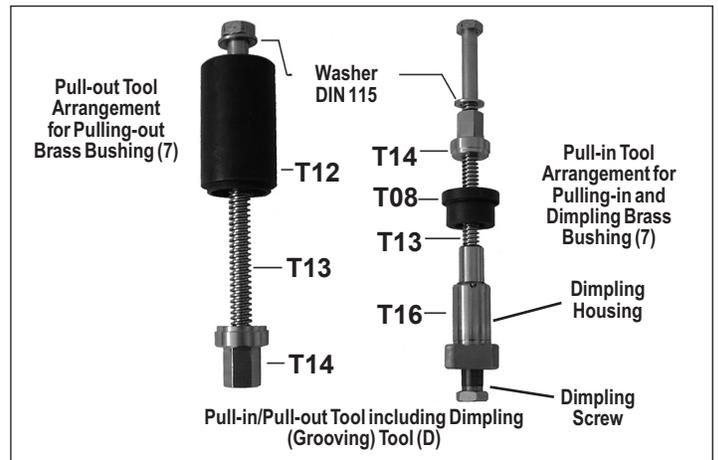
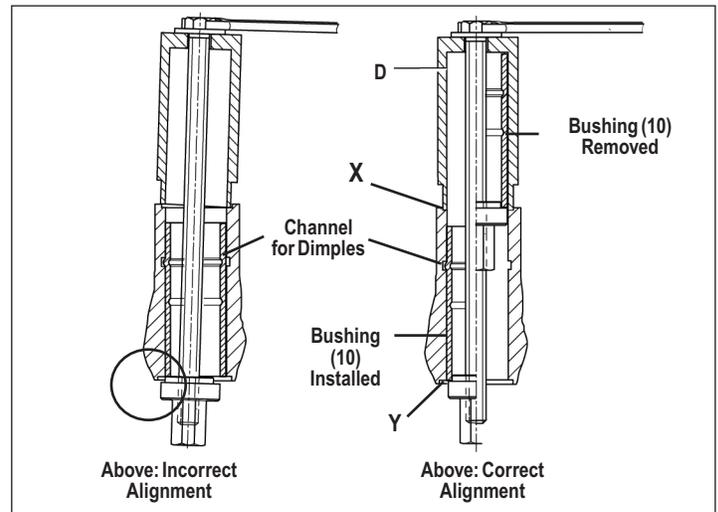
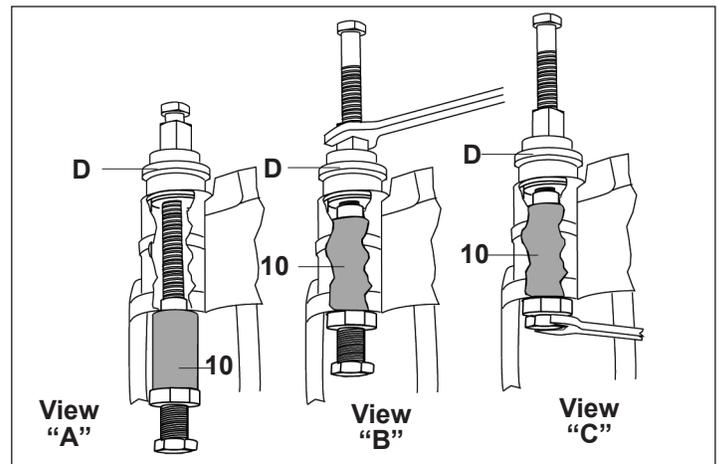

Figure 6 - Tools Used
Figure 7 - Tool Orientation
Figure 8 - Installation
Figure 6 shows the tools used for this process and their item numbers.
Clean the caliper upper and lower surfaces around the bushings (X) and (Y)—see *Figure 7*.
Position tool arrangement for pulling out of brass bushing (10)—see *Figure 7*. In order to remove the bushing, use the tool arrangement shown on the left of *Figure 6*. The tool nut (T14) is removed, the threaded shaft (T13) of the tool is fed through the caliper body and the tool section T14 reinstalled. Lubricate the tool's thread for ease of use.
Note: During the pulling process, ensure that the tool is aligned vertically with the bushing, that the tube (T12) is resting evenly on the caliper and that the nut (T14) is centered in the brass bushing (10). See *Figure 7*.
See *Figures 6 and 8*. Clamp the carrier in a vise so that the guide channel is vertically oriented. Fully wind the brass nut (T14) on to the spindle (T13) followed by the flange (T08). Place a new brass bushing (10) on the dimpling tool (T16) and insert into caliper bore. Note: The dimpling tool is sometimes referred to as a grooving tool.
Insert the spindle (T13) through the fixed guide pin bore, and screw the spindle (T13) into the dimpling tool. See *Figure 8*, view "A."
Check that the flange (T08 in *Figure 6*) is in an upright position at the top of the caliper recess. See *Figure 6*, right side arrangement for the tool used. Pull in the brass bushing (10) using brass nut (T14) up until the dimpling tool bottoms on the caliper.
Note: The final stage in the installation uses the dimpling tool (T16)—see *Figure 8*—to hold the brass guide bushing at the correct point in the casting, preventing lateral bushing movement after installation.
With the dimpling tool (T16) in position, tighten the dimpling screw until it contacts the dimpling screw housing. See *Figure 6 and view "C" of Figure 8*. This causes three dimples to be made in the bushing.